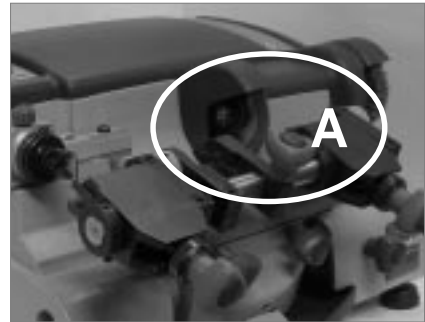

Fig. 2
- when the machine is in operation, area "A" (fig. 2) can be hazardous for the operator and any third parties in the proximity of the key-cutting machine if the warnings and precautions given in this manual are not observed.